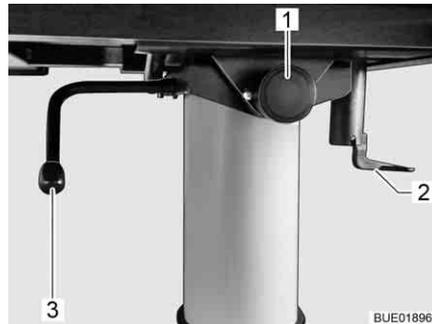

Fig. 101 Adjustment of lift-off table
- Fold down the catch lever (Fig. 101,2).
- Fold lever (Fig. 101,2) downward.
- Pull the knob (Fig. 101,1) of the lock forward and swivel the table top upwards.
- Swivel the lever (Fig. 101,3) underneath the table top by 180° in a clockwise direction. The lifting mechanism in the table leg is unlocked.
- Swivel the lever (Fig. 101,3) underneath the table top by 180° in a clockwise direction. The table top moves upwards to the limit stop.